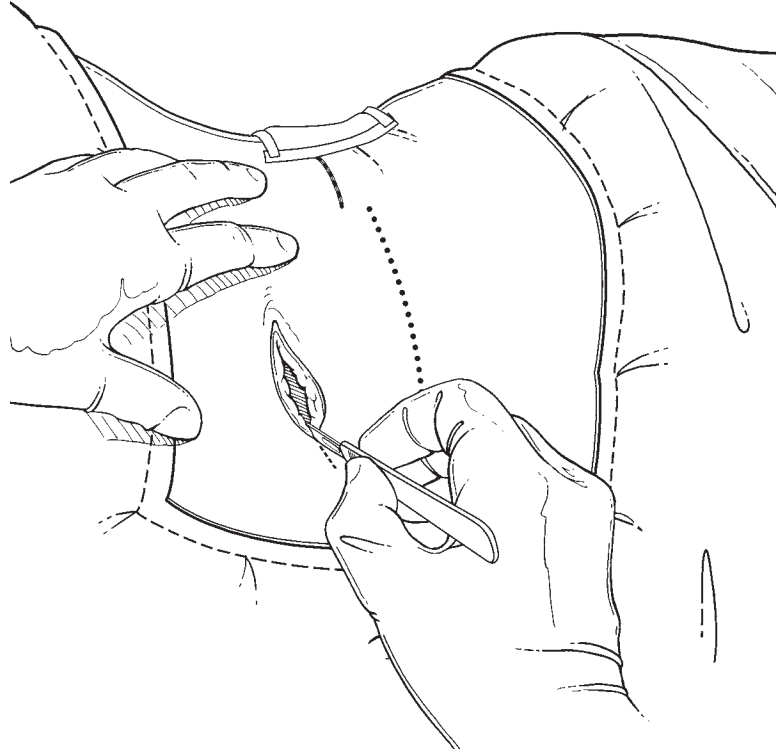

FIGURE 37
- 2 Make an incision equal to the length of the neurostimulator (FIGURE 37).